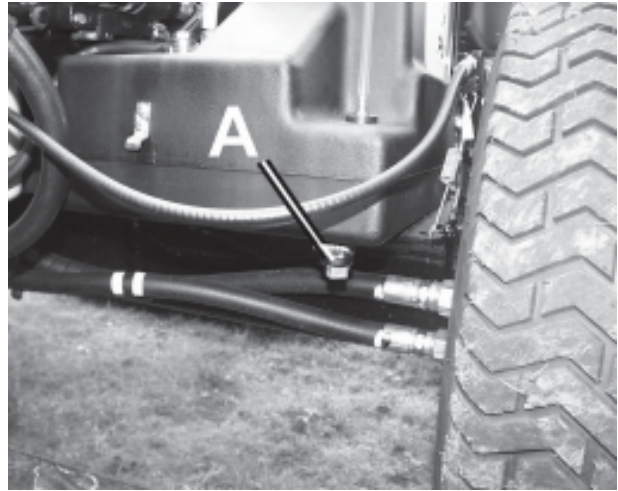

Fig.15
1. Remove drain plug from bottom of Hydraulic tank and wipe off plug. (A(Fig.15))